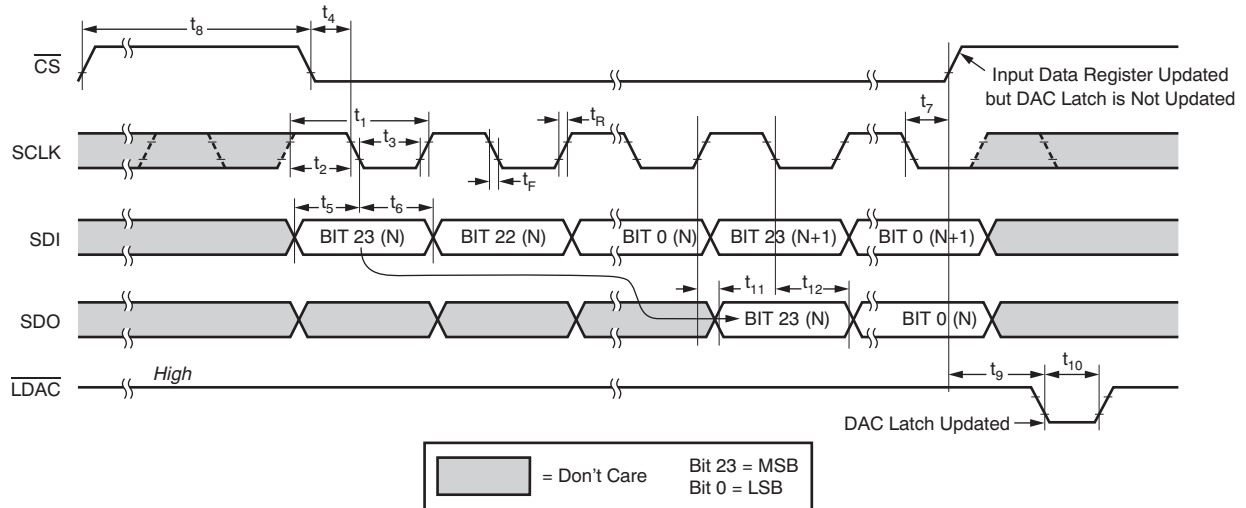
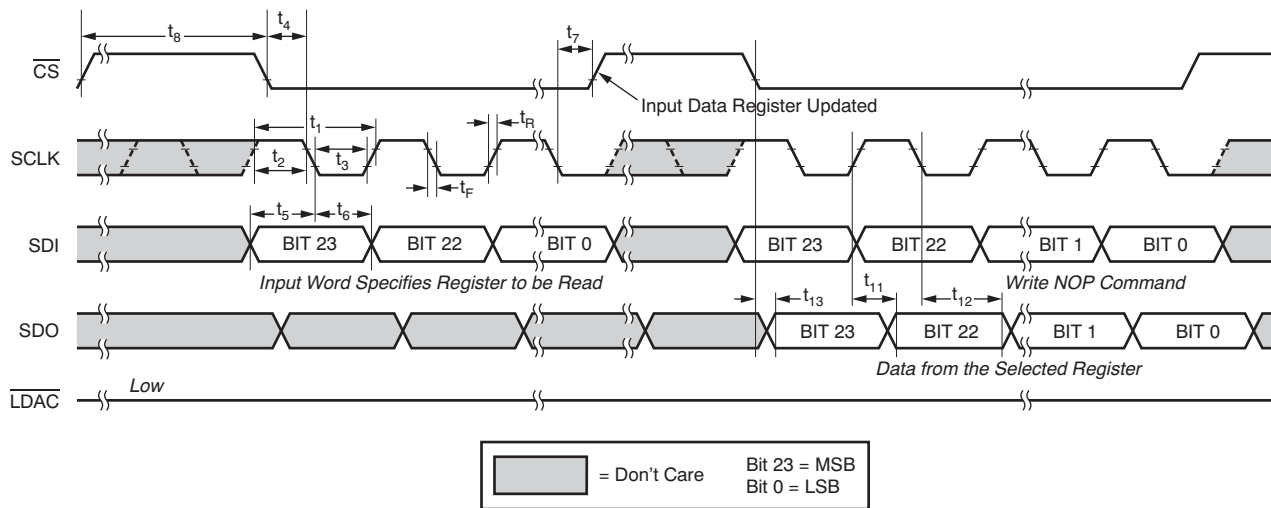

Figure 2. SPI Timing for Daisy-Chain Mode
Figure 3. SPI Timing for Readback Operation in Stand-Alone Mode
**TIMING CHARACTERISTICS For Figure 2 to Figure 3(1)(2)(3)**